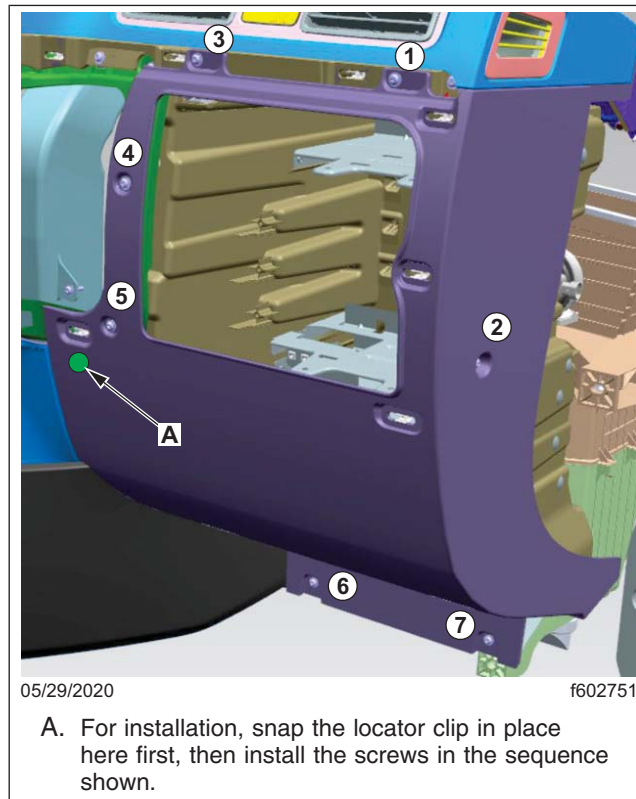

Fig. 10, Right-Hand Lower Dash Cover Removal
- 4.5 Remove the seven screws that attach the right-hand lower dash cover to the dash and the electrical bay housing. Pull the clips loose. Remove the cover. See Fig. 10.